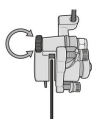

Fig.4
5. Do not to interfere the brake lining with the brake pad after installing brake. There should not be any friction sound. And left and right gap is 1mm. (Fig. 4)